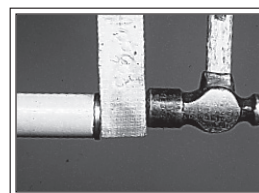

Fig.3
4. Install lock insert into plastic pipe. Lock insert is designed to have a friction fit in plastic pipe and may require light blows of a hammer to prevent bending or damaging flange, use a block of wood as surface to hammer insert in place (Fig. 3). Mark pipe 2" from end (add 1/4" additional stab depth for Plastisol coated fittings). Stab plastic pipe into coupling or fitting body to mark on pipe.